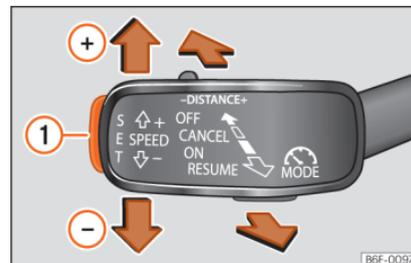

Fig. 224 On the left of the steering column: third lever for operating the GRA.
- Push button **SET** »» Fig. 224 ①.
- Press the button **SET**  **Fig. 224 1** to reduce speed in small increments of 1 km/h (1 mph).